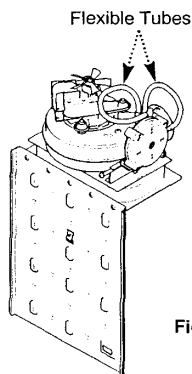

Fig. 19a
5. Re-assemble the fan assembly and combustion box door ensuring that the flexible tubes from the fan unit to the pressure switch are routed correctly and that they are not kinked or flattened (Fig. 19a).